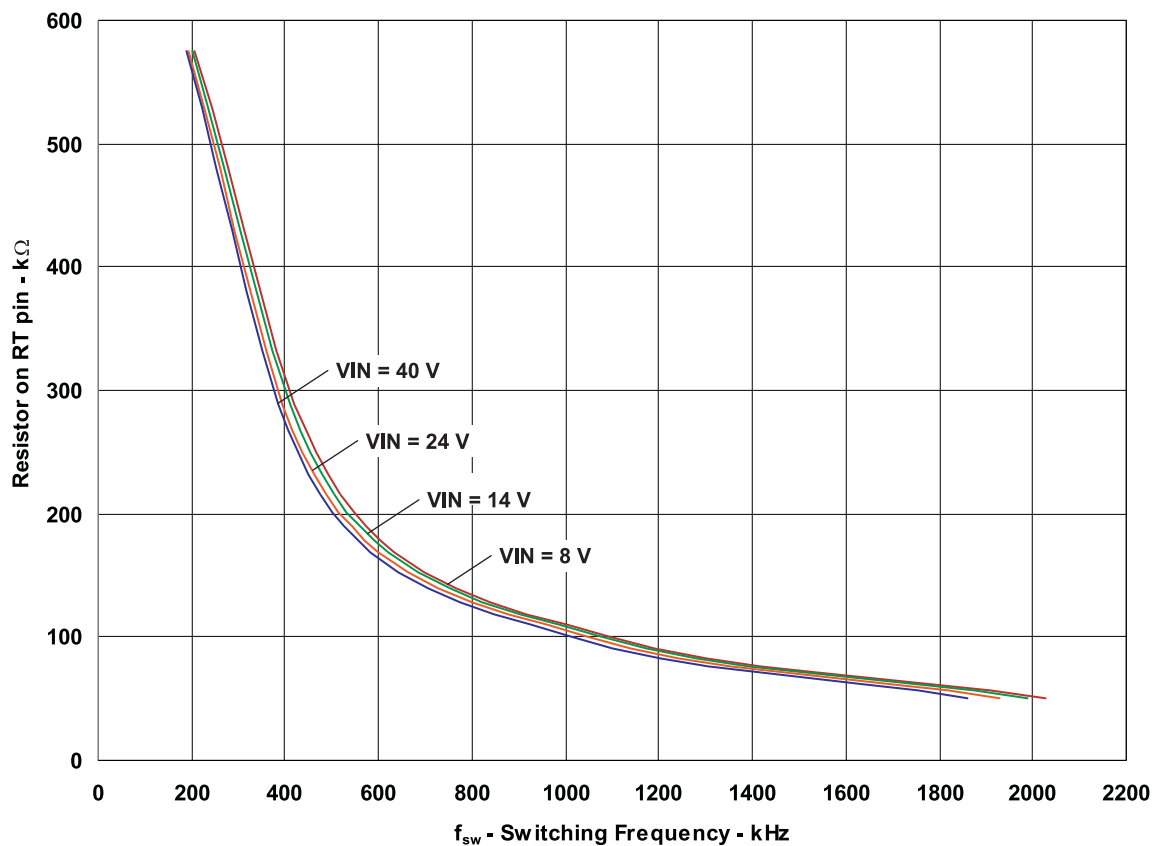

Figure 23. Switching Frequency vs Resistor Value
The oscillator frequency can be set by connecting an external resistor (R8 in Figure 4) to RT pin (pin 6). Figure 23 shows the relation between the resistor value (RT) and switching frequency ( $f_{sw}$ ). The switching frequency can be set in the range 200 kHz to 2200 kHz. In addition, the switching frequency can be imposed externally by a clock signal ( $f_{ext}$ ) at the SYNC pin.
Knowing the switching frequency, the value of resistor to be connected at RT pin can be calculated using the graph shown in Figure 23.